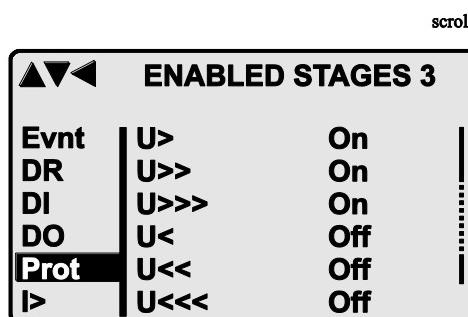

Figure 2.2.1-1. Example of scroll indication
3. Push the ENTER key to confirm the selected submenu. If there are more than six items in the selected submenu, a black line appears to the right side of the display (Figure 2.2.1-1). It is then possible to scroll down in the submenu.